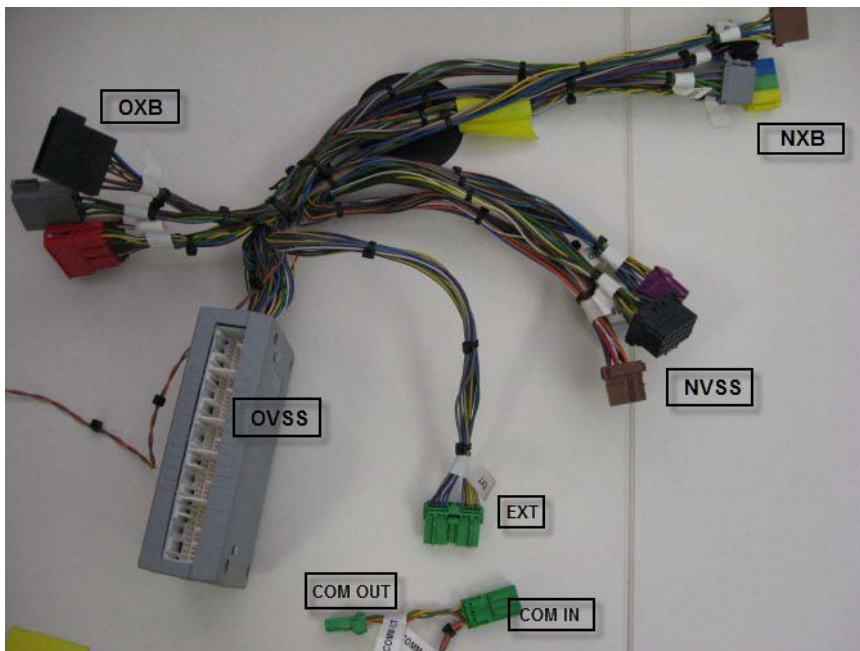

Fig.9 Interface harness connectors identification.
8. Using Fig.9 below, locate the connectors groups on the interface harness required to connect the VSS05 sound selector to the VSS04 vehicle harness.